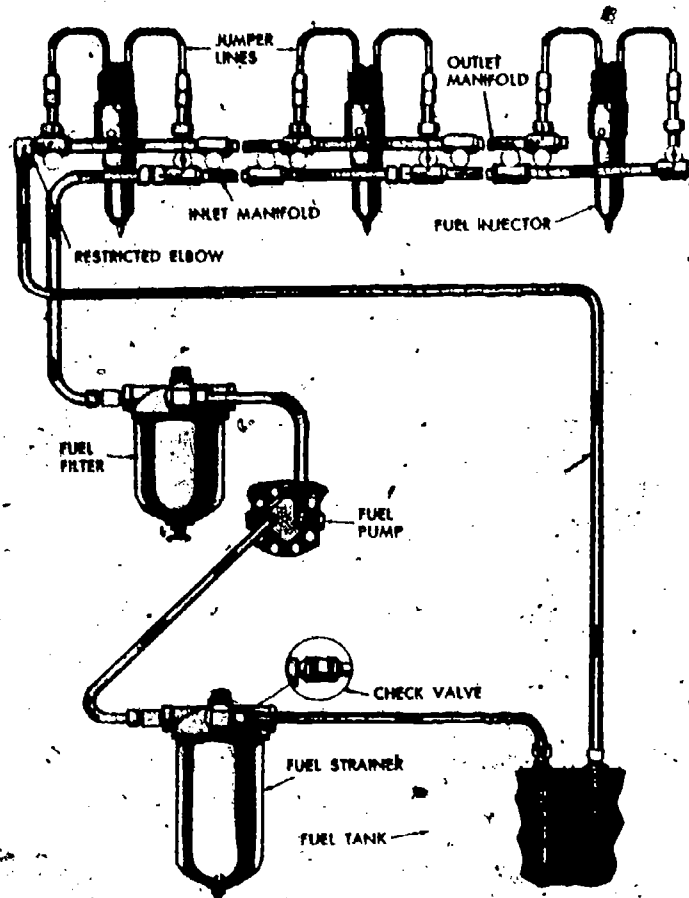

Fig 2-33. Diagram of a typical Detroit diesel engine fuel system.
- (b) **Diesel.** Diesel engine fuel systems do not mix the fuel and air before they enter the engine cylinder. The fuel injection system is designed to deliver only fuel to the proper cylinder at the correct time. Operator services to the fuel system are limited primarily to the servicing of the fuel filters and strainers. Diesel-fuel systems are complicated mechanisms, but will generally provide excellent service if clean fuel is used and the filtering devices are serviced properly. In the Detroit diesel engine fuel system (fig 2-33), a positive-displacement, gear-type fuel pump draws fuel from the fuel tank, through the fuel strainer. The strainer is equipped with a check valve which prevents fuel from flowing back to the tank when the engine is shut down. A relief valve in the fuel pump bypasses fuel from the outlet to the inlet side of the pump whenever excessive pressure develops. This valve opens at a pressure of 65-70 psi. After leaving the fuel pump, the fuel oil passes through the fuel filter, into the inlet manifold, and then the individual injectors, through the jumper lines. Unused fuel is returned to the fuel tank through the jumper lines and the outlet manifold. A restricted elbow in the outlet manifold combines with the pressure relief valve in the fuel pump to maintain a specified pressure in the fuel system. More fuel is pumped through the system than can be used by the engine, thus cooling and lubricating the injectors and providing the engine with a self-bleeding capability.